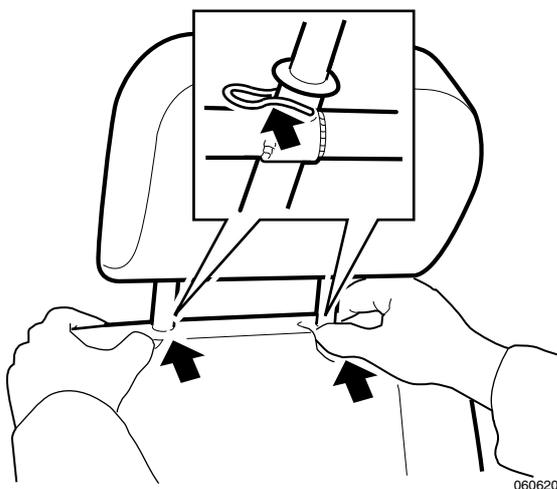

Fig.3 Removing Head Restraint
1. Exert thumb pressure on the head restraint retaining clips (see fig.3) while pulling the head restraint upwards clear of the squab.